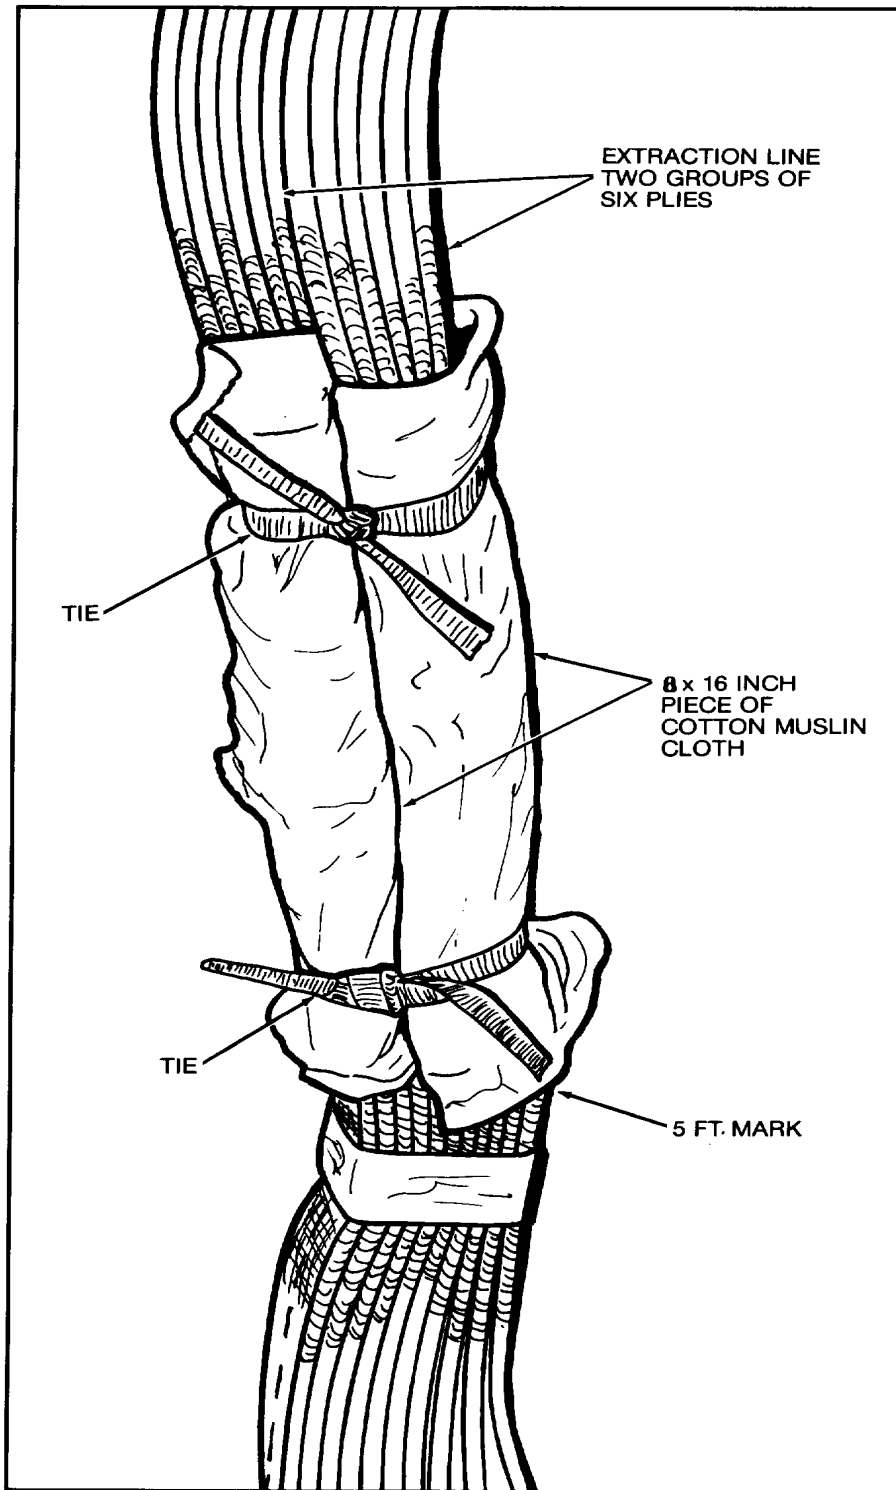

Figure 2. Extraction Line Separated into Two Groups of Six Plies and Wrapped with Cloth.
- a. Separate extraction lines plies into two groups of six each and wrap each group with piece of 8 x 16-inch cotton muslin cloth at point immediately above 5-foot mark on extraction line (figure 2).